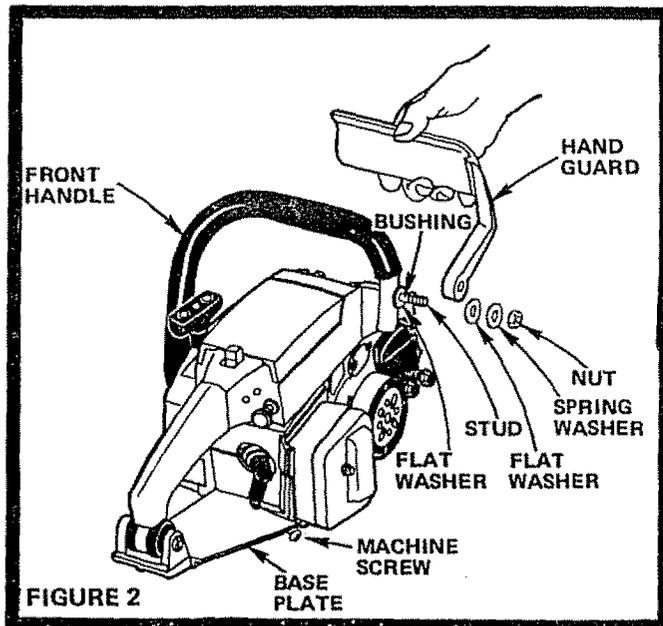

FIGURE 2
1. Remove Nut, Spring Washer and Flat Washer from Stud in Front Handle (Fig. 2).
2. Remove Machine Screw from Base Plate (Fig. 2).